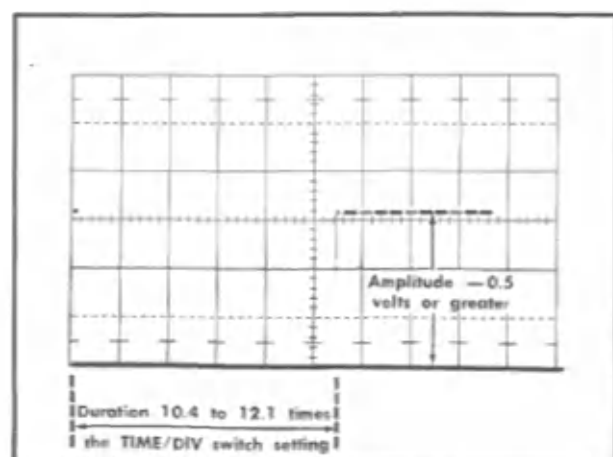

Fig. 6-58. Typical test oscilloscope display of GATE OUT signal. Vertical deflection, 0.2 volts/division; sweep rate, two milliseconds/division.
- d. CHECK—Test oscilloscope display for 2.5 division or greater amplitude with the top of the waveform at the zero volt level. Gate duration should be 5.2 to 6.05 divisions (—0.5 volt or greater amplitude with duration of 10.4 to 12.1 times the TIME/DIV setting; see Fig. 6-58).